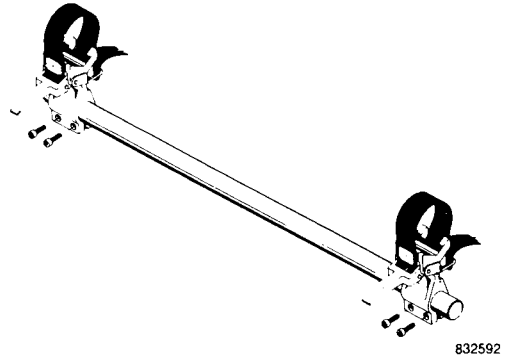

Fig. 7—30" Straight Support Tube.
a. The 4042 Support Tube Assembly is a 30" (762 mm) straight support tube with buckle hooks on each end that attach directly to the cable. See Figure 7.